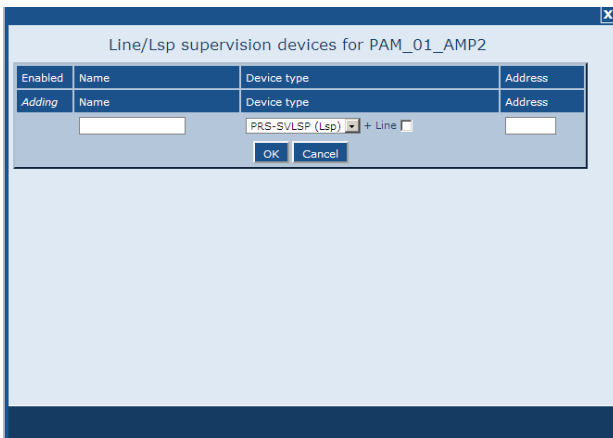

figure 43.15: Add supervision device, step 2
- 2 Click the *Add* button to add a new supervision device to the audio output. A screen similar to the one in figure 43.15 appears.